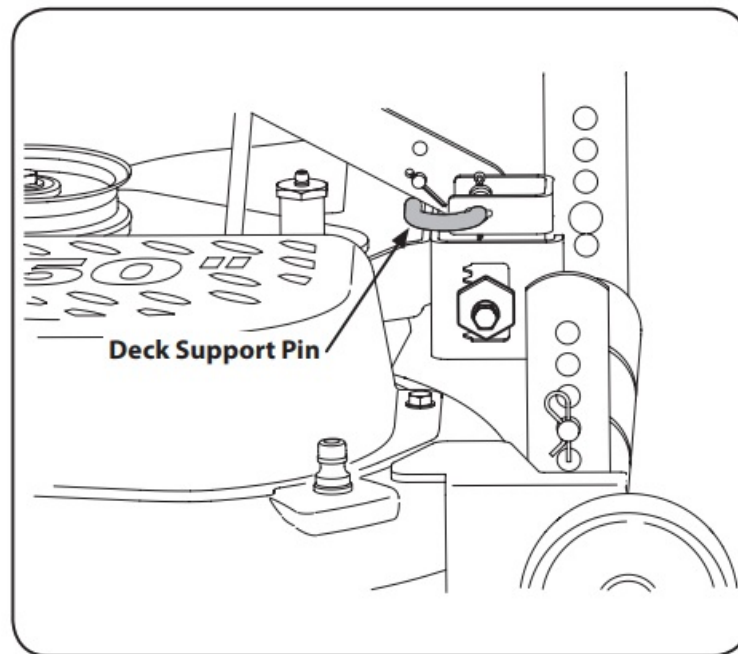

Figure 7-1
4. Looking at the cutting deck from the left side of the tractor, locate the deck support pin on the rear left side of the deck. Refer to Fig. 7-1.
5. Pull the deck support pin outward to release the deck from the deck lift arm. Pivot the support pin handle downward to lock the pin in the disengaged position. Refer to Fig. 7-1.